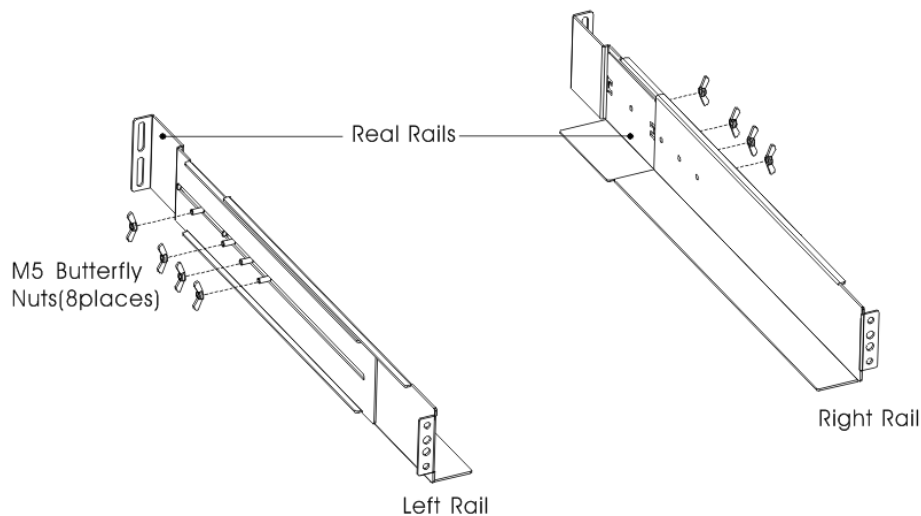

FIG.3 Securing the Rails
1. Assemble the left and right rails to the rear rails as shown in FIG.3. Do not tighten the screws. Adjust each rail size for the depth of your rack.
3. Tighten four M5 Umbrella Nuts in the side of rail assembly (see FIG. 3).